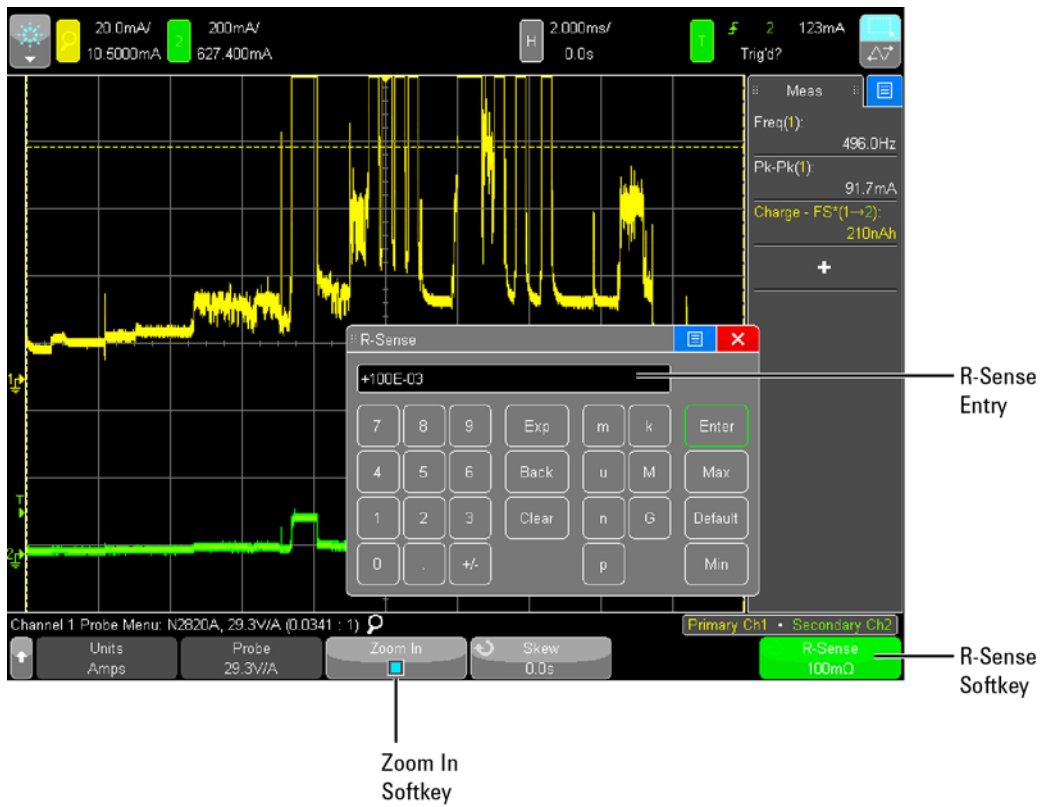

Figure 11 R-Sense Entry Box
- 3 If you are using an N2821A probe, press the **Zoom-In** softkey to toggle between zoomed-in (blue selection box on softkey) or zoomed-out (clear selection box) for the channel. This softkey is shown at the bottom of Figure 11 on page 30.
- 4 If you are using an N2825A user-defined head, which uses a DUT-mounted  $R_{\text{SENSE}}$  resistor, press the **R-Sense** softkey, shown in Figure 11 on page 30. Then, enter the resistance of the  $R_{\text{SENSE}}$  resistor that you are using.